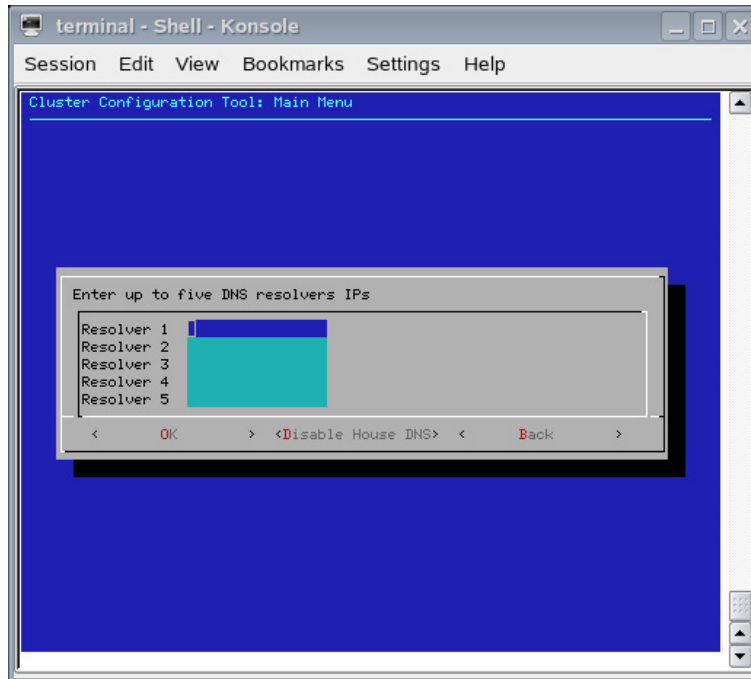

Figure 2-22 Enter up to Five DNS Resolvers Screen
34. Optionally, configure the house domain name service (DNS) resolvers as shown in Figure 2-22 on page 50. After entering the IPs, click **OK** to enable, click **Disable House DNS** to stop using house DNS resolution, click **Back** to leave house DNS resolution as it was when you started (disabled at installation).